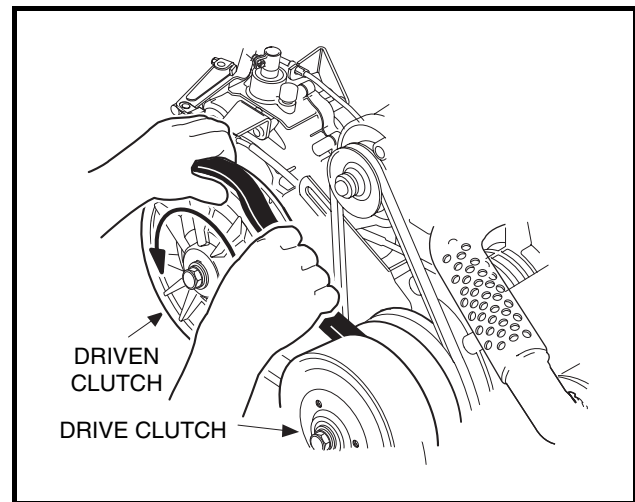

Figure 16-29 Remove Drive Belt
- 16.1. Grasp belt midway between drive and driven clutch and pull up on belt to force the driven clutch sheaves apart. Roll the belt counterclockwise while pulling it off driven clutch (**Figure 16-29, Page 16-12**).